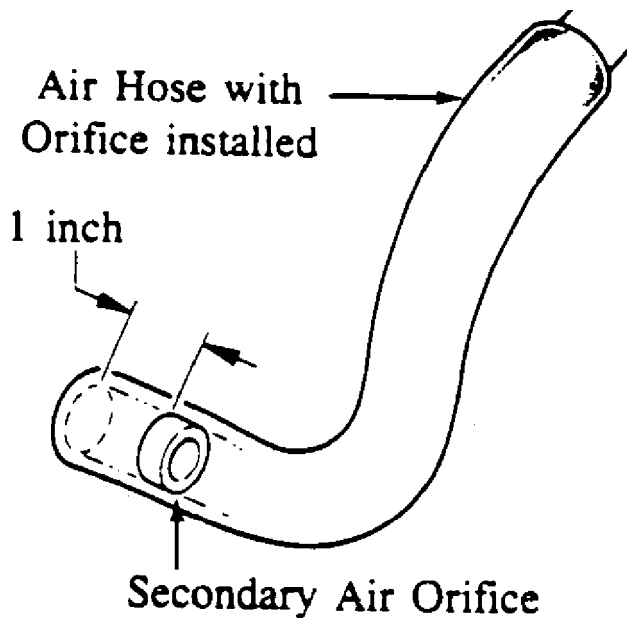

Fig. 3: Air Hose with Orifice Installed
2. Insert the secondary air orifice (included in the kit) about 1 inch into the air pump side of the hose. See Fig. 3.